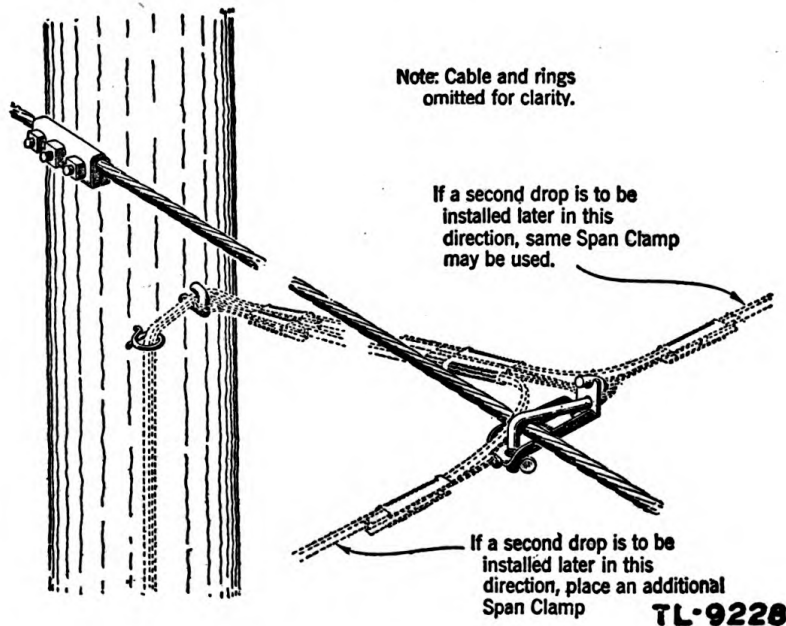

Figure 33. Span clamp installed on pole not requiring guardarm.
s. INSTALLING SPAN CLAMPS. (1) Remove the wingnut, raise the threaded end of bolt, and engage suspension strand at the grooves of the span clamp. Place the hook end of the span clamp on same side of the strand as the drop wire attachments on the pole or guardarm. If initial drops cross the strand, place drop wire clamps at the wingnut end of the span clamp before re-engaging the bolt. Replace wingnut, and tighten it securely by hand.
(2) Do not attach more than two drop wires spanning from a pole or guardarm attachment, to one span clamp.
(3) A span clamp mounted on a pole not requiring a guardarm is shown in figure 33.